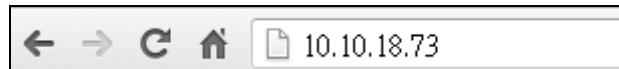

Figure 3-36: IEI iMAN Web Address
Step 2: On the remote management console, open a web browser. Enter the managed system IP address in the web browser (**Figure 3-36**).